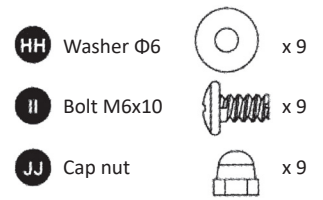
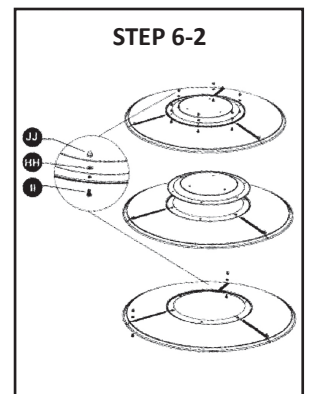

Fig. 5
Fig. 13
Step 6-1 (Fig. 5, 12)
2. Insert one bolt M6x10 (II).
3. Slide one washer $\Phi 6$ (HH) over the threaded end of bolt M6x10 (II) and screw on the cap nut (JJ) loosely.
Step 6-2 (Fig. 13)
3. Slide one washer $\Phi 6$ over the threaded end of bolt M6x10 (II) and screw on the cap nuts (JJ) loosely.